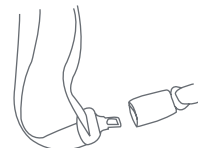

Fig. 18-2
- A lap/shoulder combination belt system with a latch plate that can slide freely along the belt is suitable for use with the Safety Seat if it includes a lockable retractor or if a locking clip is used to secure the lap belt into position and prevent loosening. Use the locking clip provided with the Safety Seat as instructed on page 41. **Please refer to your vehicle's owner's manual for additional information on locking this style of seat belt.** This style of belt must be locked to prevent movement of the Safety Seat (Fig. 18-2 & 18-3).